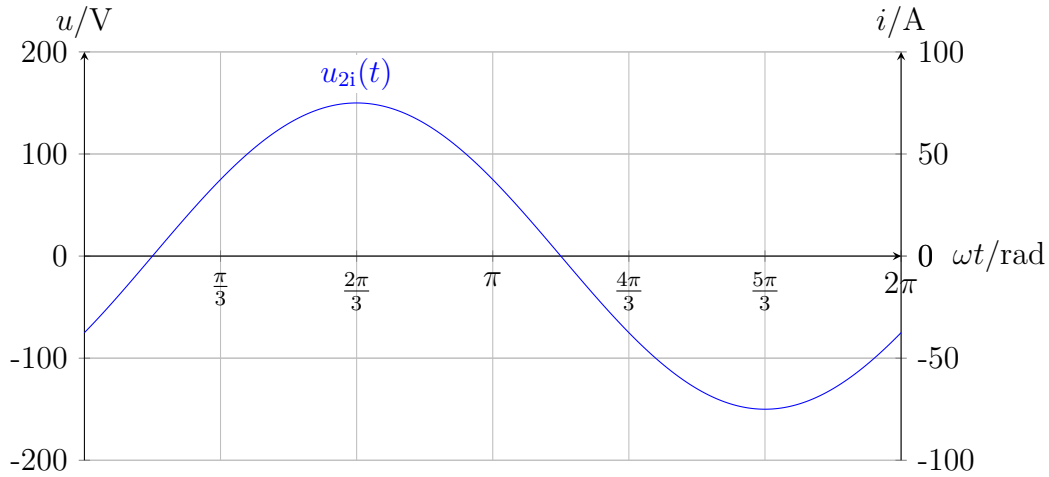

Figure 7.1.5: Output current $i_2(t)$, its fundamental component $i_2^{(1)}(t)$, its harmonics $i_2^{(h)}(t)$, and input current $i_1(t)$.
7.1.4 Draw the converter's output current $i_2(t)$, its fundamental component $i_2^{(1)}(t)$ and its harmonics $i_2^{(h)}(t)$ in Fig. 7.1.5.
7.1.5 Mark the input current $i_1(t)$ of the AC-DC converter in Fig. 7.1.5.